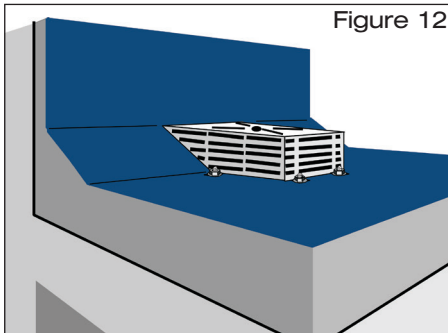

Figure 12
- 2.6 Fasten the strainer using the fastening nuts and washers provided (Fig. 12).